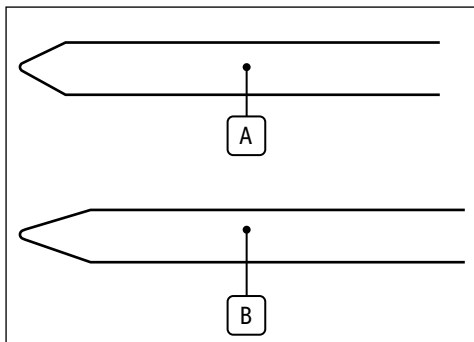

Fig. 11
8.4 TIG Welder, Tungsten Electrodes – Selection & Preparation – Fig. 11